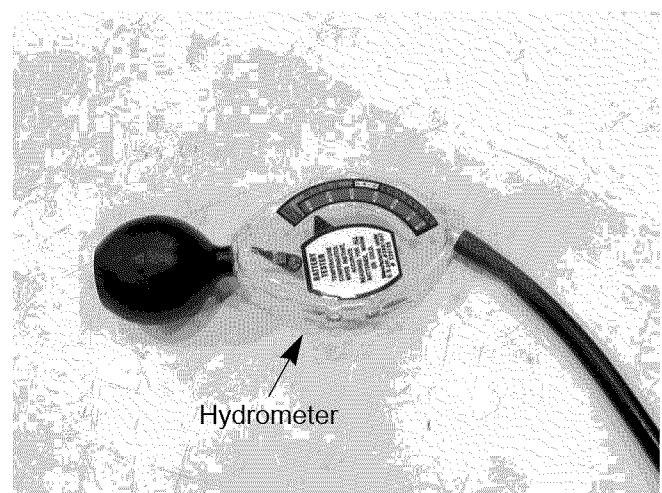

Figure 7.40
- 1a. Hydrometer test (non-sealed batteries only) See Figure 7.40.